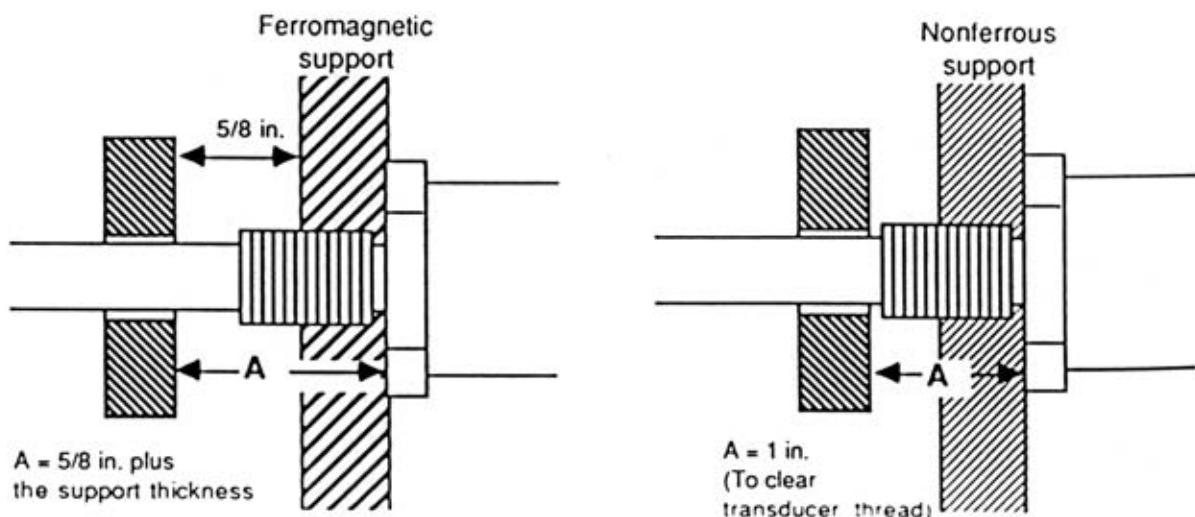

Figure 3-3 Magnetic Material Mounting Specifications
2. Install the permanent magnet over the LDT rod. Mount the permanent magnet to the movable device whose displacement will be measured. To minimize the effect of magnetic materials (i.e. iron, steel, etc) on the magnetic field of the permanent magnet, ensure the minimum spacing requirements are met as shown in Figure 3-3. (Any non-magnetic materials can be in direct contact with the permanent magnet without affecting performance.)
2. Install the permanent magnet over the LDT rod. Mount the permanent magnet to the movable device whose displacement will be measured. To minimize the effect of magnetic materials (i.e. iron, steel, etc) on the magnetic field of the permanent magnet, ensure the minimum spacing requirements are met as shown in Figure 3-3. (Any non-magnetic materials can be in direct contact with the permanent magnet without affecting performance)